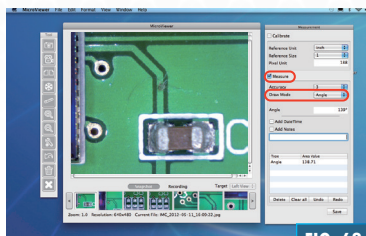

FIG. 62
3. Click the check box next to "Measure." (Fig. 62)